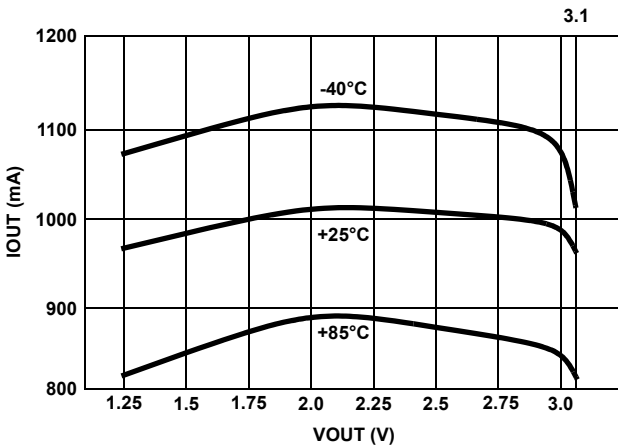
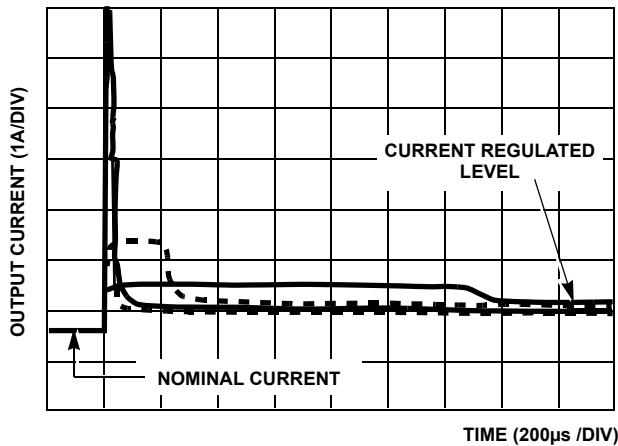

FIGURE 4. CURRENT REGULATION vs Vout (VIN = 3.3V)
FIGURE 6. OC TO CR SETTLING TIME WAVEFORMS
The ISL6119 has integrated current sensing on the power MOSFET that allows for rapid control of OC events. Once an OC is detected the ISL6119 goes into its current regulation (CR) control mode. The ISL6119 CR level is set to a nominal 1A. This current regulation is $\pm 25\%$ over the full operating temperature and voltage bias range. See Figures 4 and 5 for illustrative curves. The speed of this control is inversely related to the magnitude of the OC fault. Thus a hard overcurrent is more quickly controlled than a marginal OC condition. See Figure 6 for waveforms illustrating this and Figure 7 for an accompanying graph.